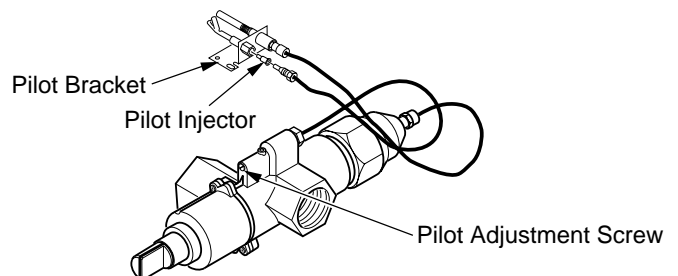

Figure 11 - Installing Propane/LP Pilot Orifice
14. Gently loosen and remove the pilot line connection from the pilot bracket (see Figure 11).
- Access the pilot adjustment screw through slot in valve cover. Turn adjustment screw clockwise to decrease or counterclockwise to increase the flame to proper size (see Figure 11, page 7). Do not remove the adjustment screw.